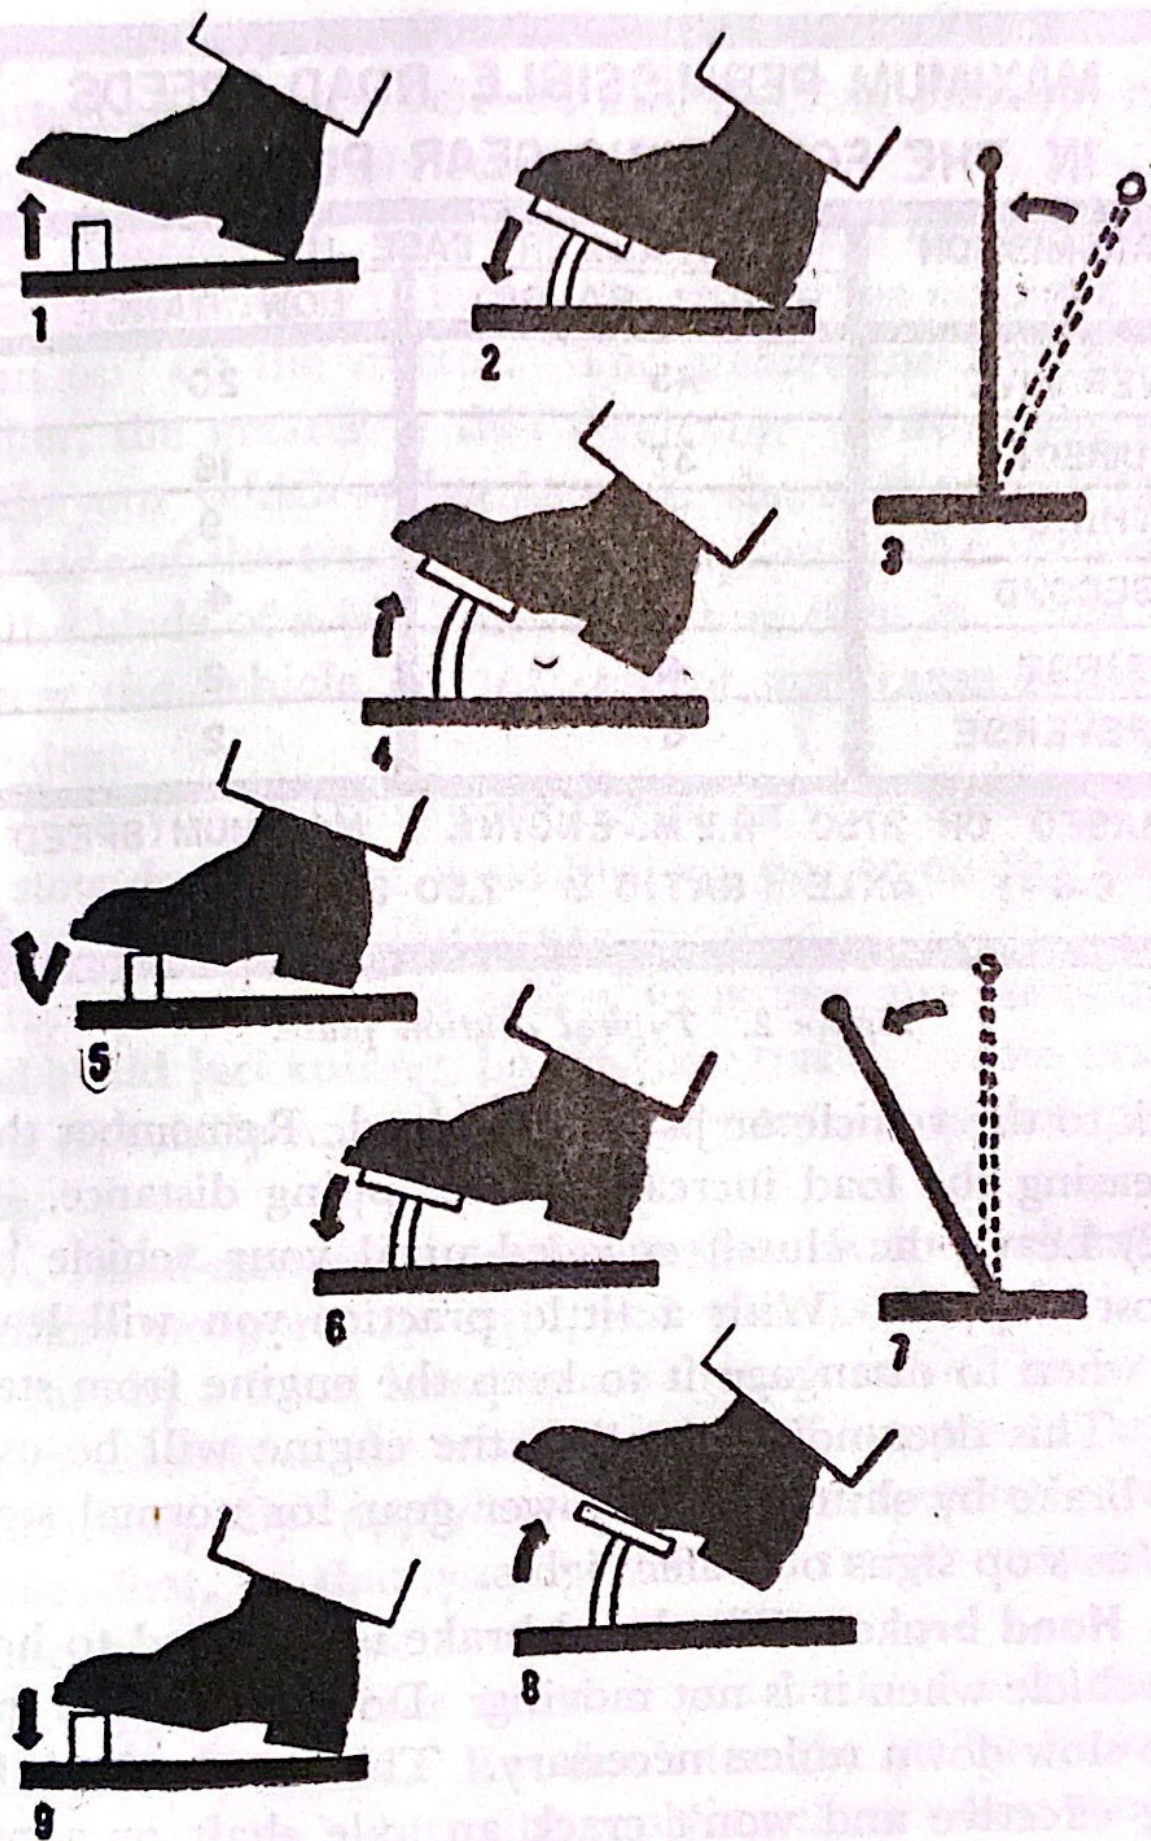

Figure 1. Double clutching.
d. Double clutching. Good drivers often use double clutching to engage the gears smoothly by synchronizing the speeds of the gears before engagement. Shifting to a lower speed by double clutching is done as follows: (1) Remove foot from accelerator; (2) depress the clutch pedal; (3) move the gearshift lever to neutral position; (4) release the clutch and at the same time (5) depress the accelerator until the engine speeds up somewhat; (6) depress the clutch pedal; (7) move the gearshift lever to the next lower speed; (8) release the clutch pedal and at the same time (9) depress the accelerator to maintain the speed of the engine as the load is again connected to it by the engagement of the clutch. (See fig. 1.)